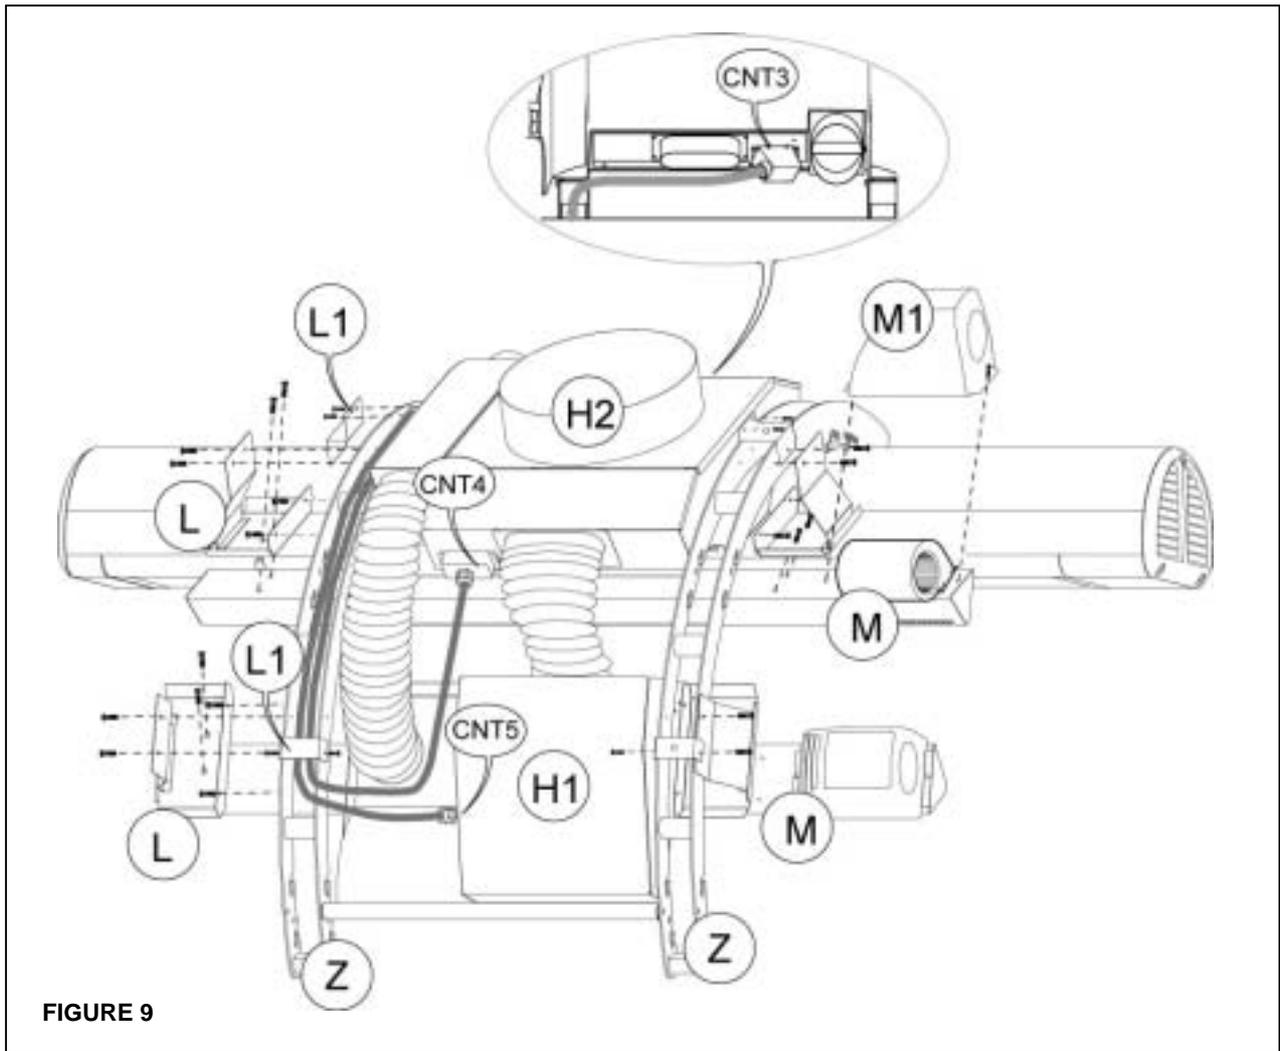

FIGURE 9
- 10 Figure 9
Fit the canopy connectors CNT3-CNT4-CNT5 inserting them under the **L1** sheets (see figure 9).